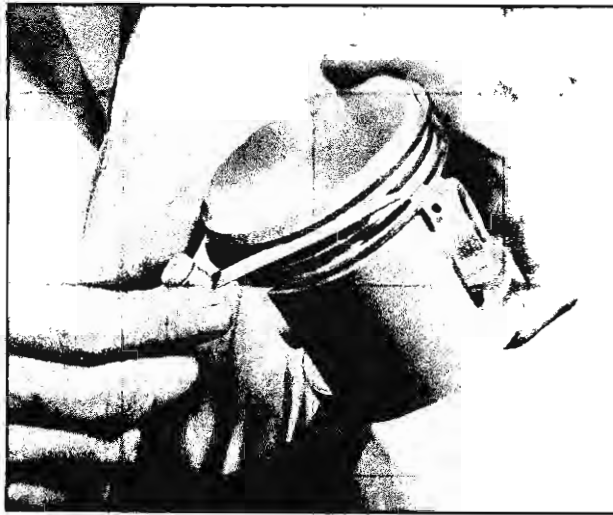

Fig. 37—Checking Piston Ring, Groove Clearance
10. The compression rings should be fitted so that the clearance is .0020" to .0035" (fig. 37).